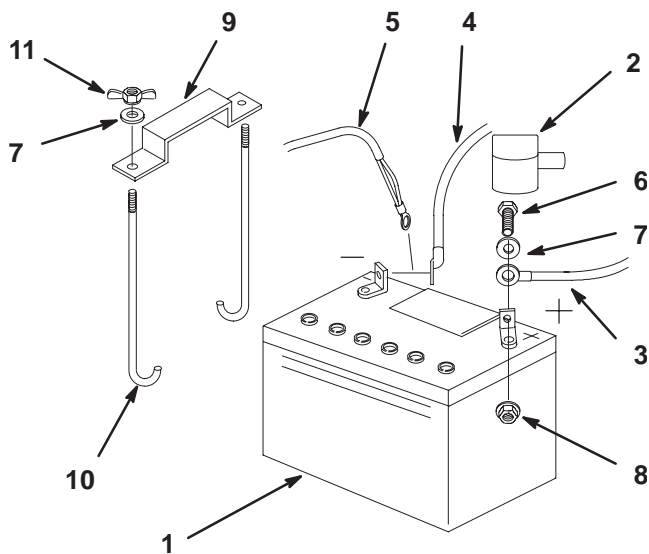

Figure 63
1. Position battery in tray with terminal posts toward the engine (Fig. 63).
4. Secure cables with 2 bolts (1/4 x 3/4 inch), 2 washers (1/4 inch), and 2 locknuts (1/4 inch) (Fig. 63).
6. Secure battery with J-bolts, hold down clamp and 2 washers (1/4 inch), and 2 wing nuts (1/4 inch) (Fig. 63).
4. First disconnect the negative battery cable and ground wire from the negative (-) battery terminal (Fig. 63).
5. Slide the red terminal boot off the positive (red) battery terminal. Then remove positive (red) battery cable (Fig. 63).
6. Remove both wing nuts (1/4 inch) securing the battery clamp (Fig. 63).